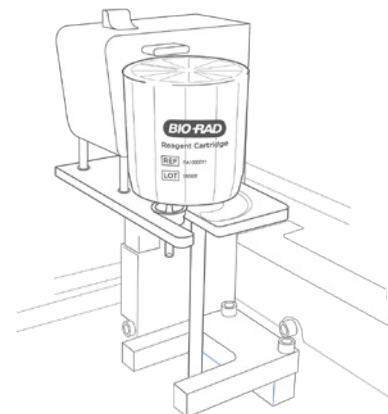

Fig. 27. Reagents cartridge on spindle.
2. Pull aside the cartridge retainer arm and place the reagents cartridge on the spindle, spinning it slowly until the keys align and it drops down (Figure 27).